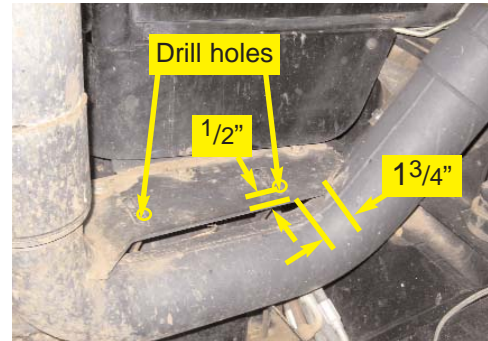

Figure 2a. Mounting location.
a. Locate the shield above the exhaust pipe on the right side of the tractor in front of the cab. Using the mounting bracket (**D**) as template, mark out and drill two $\frac{7}{16}$ " holes in the shield. (Figure 2a.)